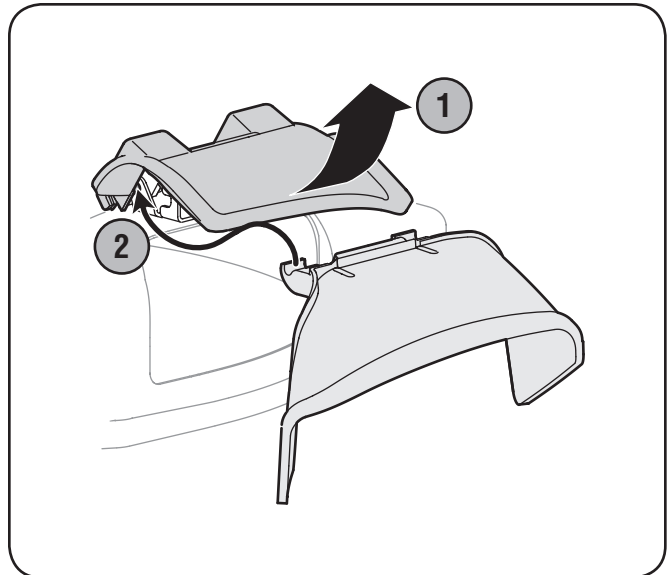

**Figure 3-4**
4. Insert post on cable tie into hole provided on the lower handle. Pull cable tie tight and trim excess. See Figure 3-4.